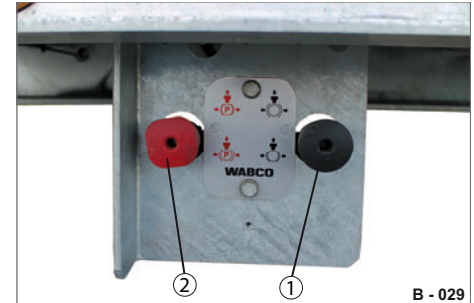

Fig. 19 Operating console
- Engage the spring-loaded parking brake (Fig. 19/2).